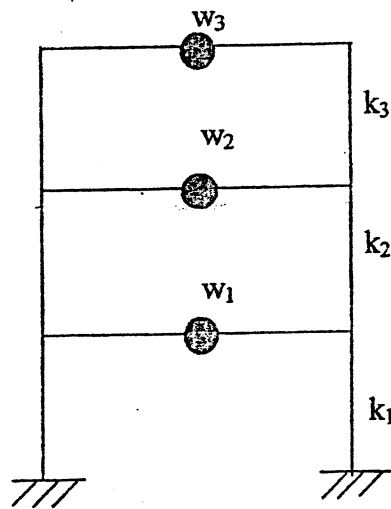

Fig.3
4. a. Find the fundamental vibration mode shape and frequency for the structure shown in fig 3 using Stodola or Holzer method.